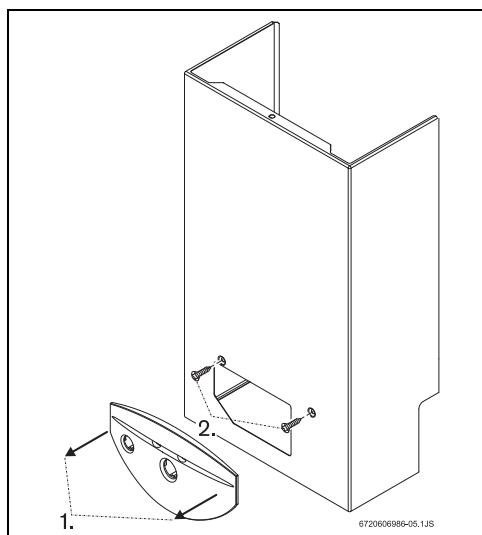

Fig. 14 Remove front cover
- Remove the mirror from the appliance by pushing it lightly towards (Fig. 14, [1]).
- Loosen the two screws (Fig. 14, [2]).